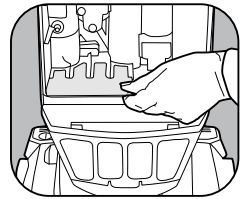

Fig. 3
2. Remove the secondary filter by sliding it out from under the bag supporter (Fig. 3).